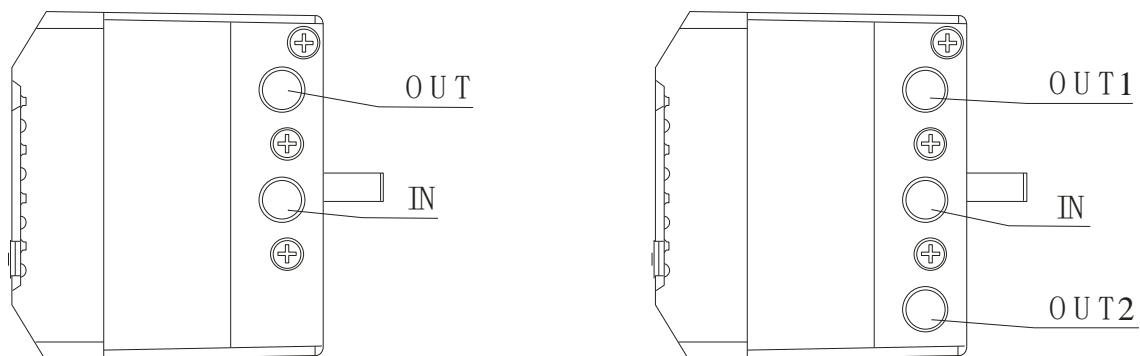

Figure 6: Pneumatic Connection
4.6.1 Input electric connection (Figure 6)